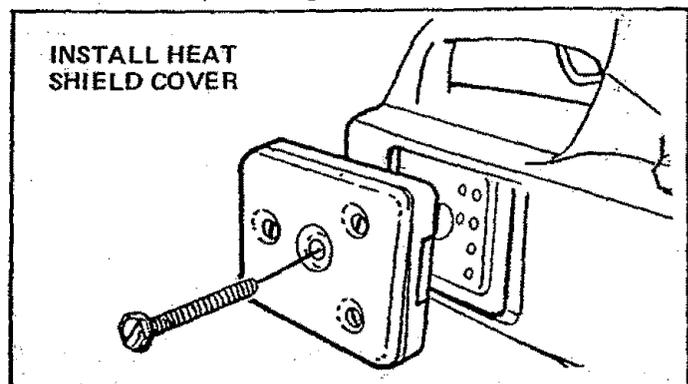

Figure 16
- Install the temperature limiting muffler body. Figure 16.